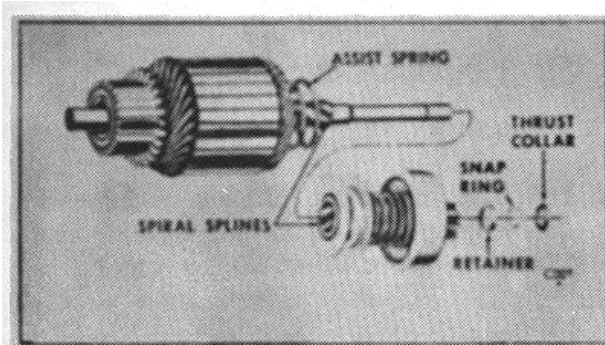

Figure 33.
a. Slide thrust collar (Fig. 33) off end of armature shaft.
connected. Place one prod of test lamp on armature and the other prod on commutator. (Fig. 33) If test lamp lights, armature is grounded and should be replaced if defect is not readily apparent and repairable.